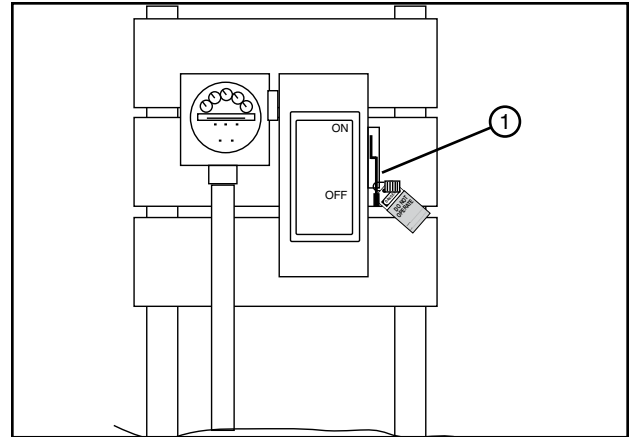

Figure 37-1 1. Public Power Service Disconnect
1. Turn OFF and lock the electrical service disconnect at each tow location. See figure 37-1.